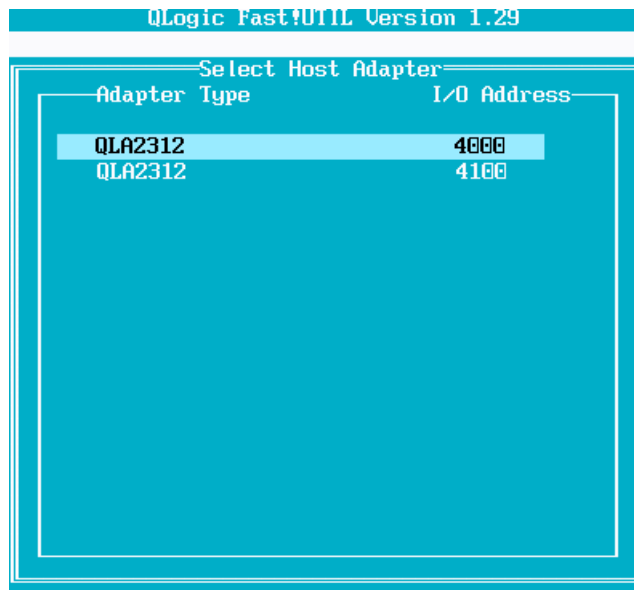

Figure 4-3 Select Host Adapter window
3. Select the first Fibre Channel adapter port (port 1 @ 4000 I/O address is internally connected to the top Fibre Channel Switch in slot 3 of the BladeCenter chassis), as shown in Figure 4-3.